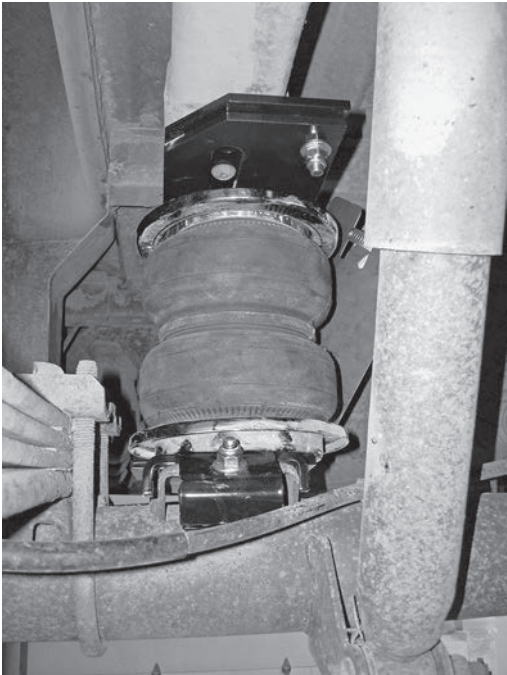

fig. 17
- 1. Front view of the right (passenger) side assembly (Fig. 17).